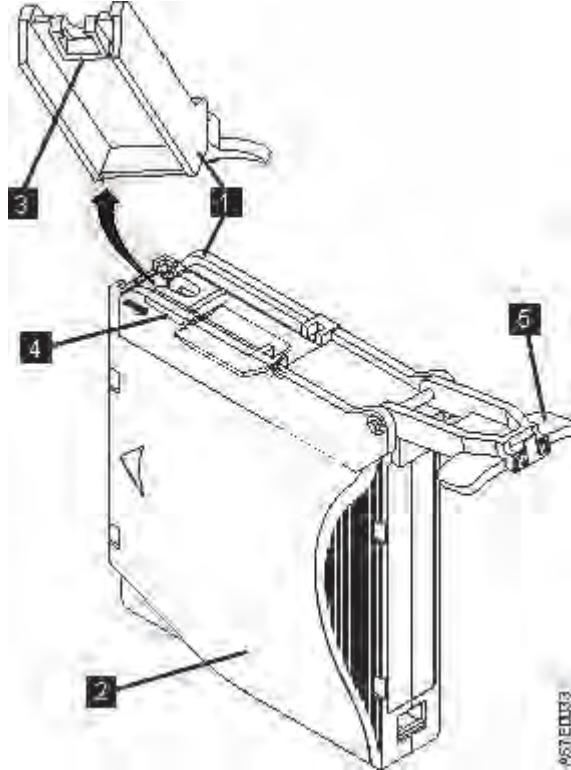

Figure 106. Attaching the leader pin attach tool to the cartridge
1. Attach the leader pin attach tool (1 in Figure 106 on page 226) to the cartridge 2 so that the tool's hook 3 latches into the cartridge's door 4. Pull the tool back to hold the door open, then slide the tool onto the cartridge. Open the tool's pivot arm 5.